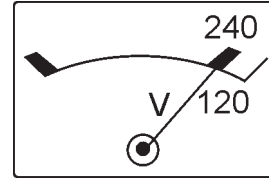

Figure 17. AC Voltmeter (120VAC)
- Refer to the AC voltmeter (Figure 17) on the control box. The voltage indicated on the voltmeter should be 120 VAC with no load applied.